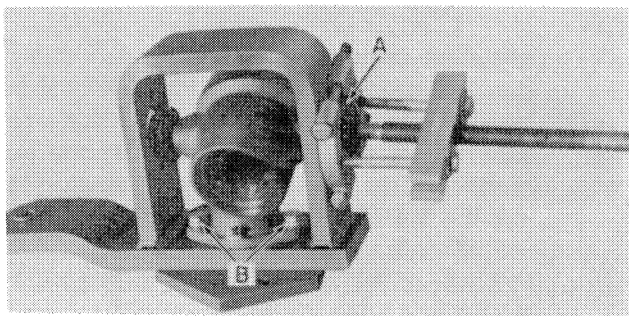
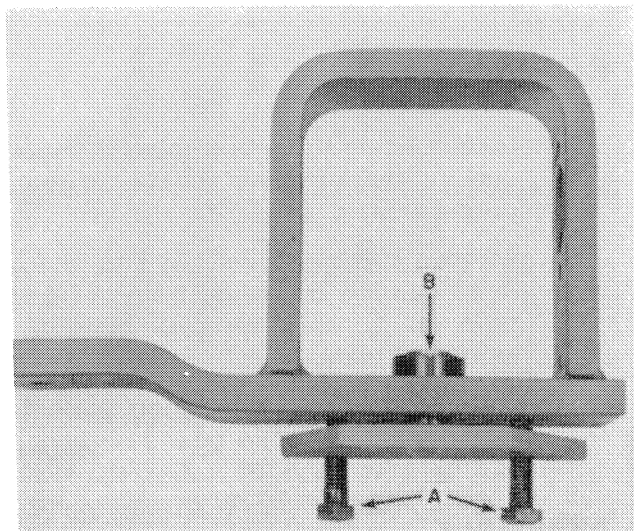
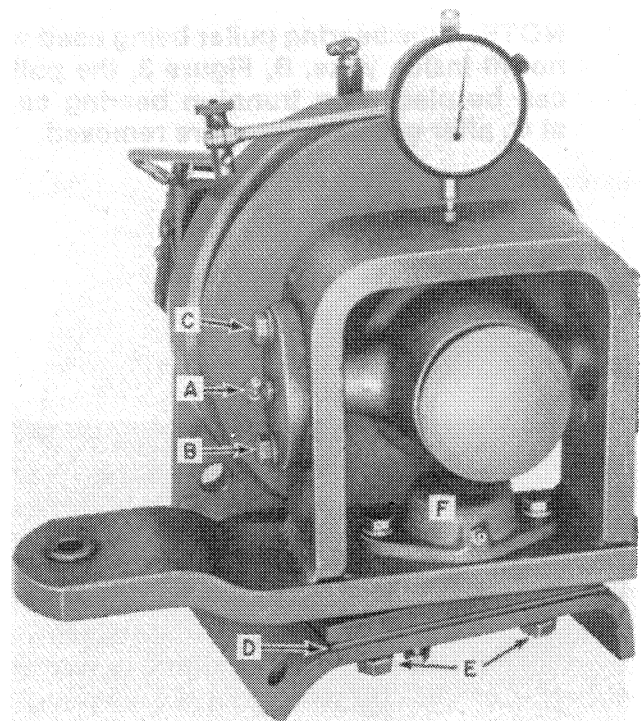

FIGURE 4
FIGURE 5
FIGURE 7
2. To disassemble the yoke assembly, remove the trunnion bearing caps and shims. Use a bearing puller, A, Figure 4, to remove the trunnion bearing and seal assemblies. Do not try to save these assemblies because the seal is usually damaged when removed.
3. Remove bolts, B, Figure 4, from the steady rest bearing cap and gasket. Install two 1/2" cap screws at A, Figure 5, and turn the bolts in against the yoke to remove the steady rest bearing and locking collar, B, Figure 5, as one assembly.
2. Install the steady rest support, Figure 5. If the steady rest bearing was replaced, do not install locking collar, B, at this time.
3. Install the wobble hub, Figure 4, in the wobble yoke.
Install the trunnion bearing and seal assemblies. Install an equal amount of shims under both bearing caps. Make sure the bearing caps have the grease fittings pointed out as shown at A, Figure 7.
Tighten bolts, B and C, Figure 7, evenly on both sides. Make sure the caps do not set up a binding load on the radius of the yoke. Add or subtract shims under the bearing cups until it takes 6-10 in. lbs. (0.68-1.13 N·m) force to rotate the hub. The hub should not have any binding or end play. Shim sizes are 0.003", 0.005", 0.007", and 0.020".
5. Install spacer, D, and two bolts, E, Figure 7, and tighten the bolts. If the steady rest bearing was replaced, locking collar, B, Figure 5, can now be installed and tightened. This procedure will insure that the bearing is not moved out of its original position. Install the gasket and bearing cap, F, Figure 7.
6. Loosen bolts, E, Figure 7, two full turns. The wobble yoke assembly should not have any more than 0.006" (0.15 mm) vertical movement while turning the wobble sheave through one full revolution. Use a dial indicator, shown in Figure 7, to check movement. If there is more than 0.006" (0.15 mm) movement, recheck bearings for proper seating and preload.
*IMPORTANT: Excessive movement will cause repeated steady rest bearing and knife head bushing failures. Bolts, E, Figure 7, can now be removed.*